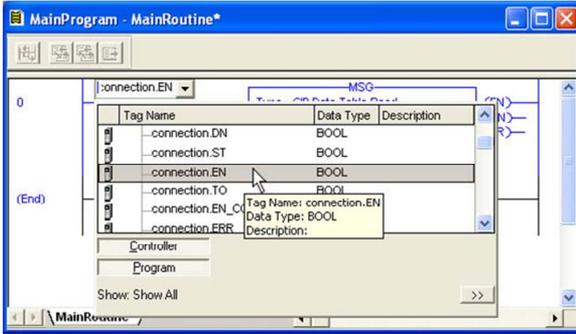

Figure 92: Configure XIO Element
- a) Double-click on the XIO element located to the left of the MSG block. In the drop-down box, double-click on the “connection.EN” field. Refer to Figure 92. This configuration causes the MSG instruction to automatically retrigger itself when it completes. While this is acceptable for the purposes of this example, it can produce high network utilization. In actual practice, it may be desirable to incorporate additional logic elements to allow triggering the MSG instruction at a specific rate or under specific conditions.